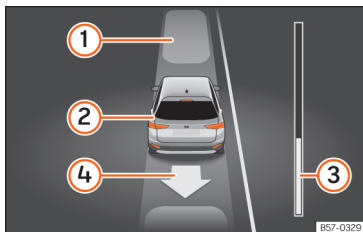

Fig. 284 On the instrument panel display: driving off from perpendicular parking.
Key to the **Fig. 284**:
7.	OR: go backwards until the instrument panel display shows the message to go forward. The progress bar » Fig. 284 ③ indicates the distance to cover » page 310.